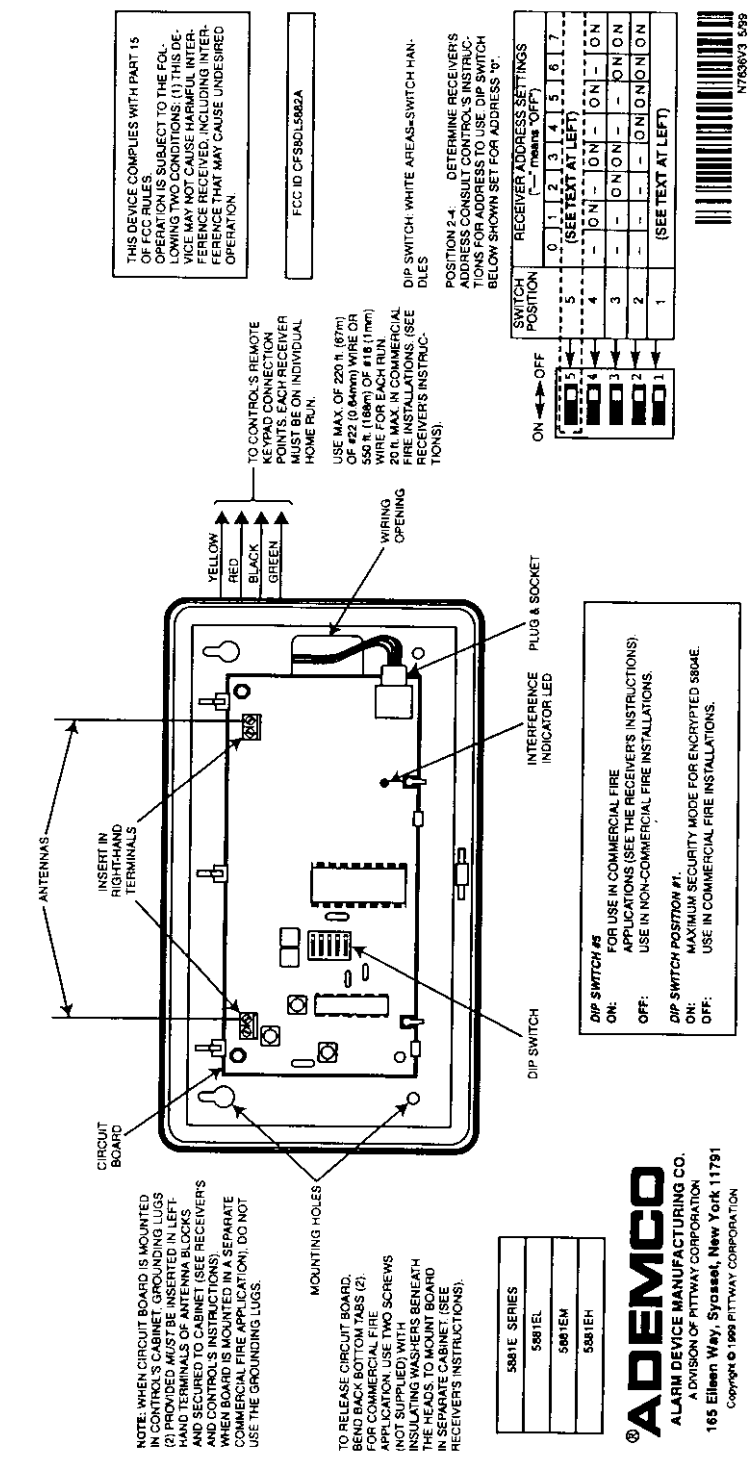

Figure 2: Summary of Connections, 5881E Series RF Receivers
Set the receiver's DIP switch (#2 through #4) to identify the receiver's address (refer to the DIP switch chart in Figure 2).
5. **Insert the wiring plug (with 4 flying leads) into the mating socket on the receiver** (see Figure 2 for socket location). Connect the 4 wires to the control's corresponding remote keypad connection points (see "Interface Wiring" in the *SPECIFICATIONS* section).